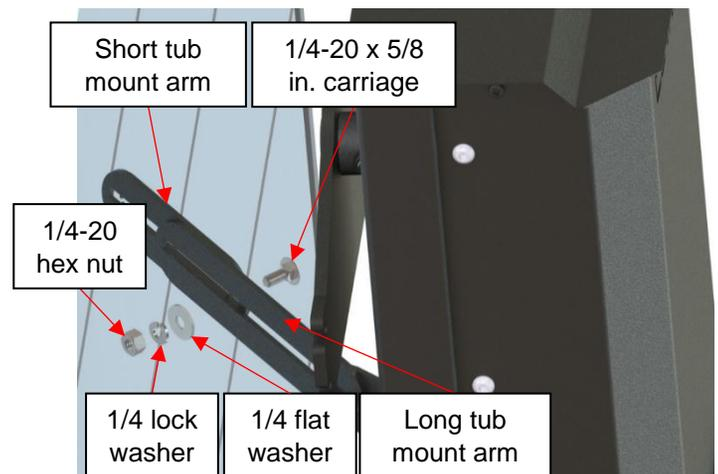

Figure 89
- 3) If the arm still doesn't reach the skirt of the hot tub, add the other tub mount arms and fasten them with 1/4-20 x 5/8 in. carriage bolts, 1/4 flat washers, 1/4 lock washers and 1/4-20 hex nuts. Keep these loose for now. (Figure 89)